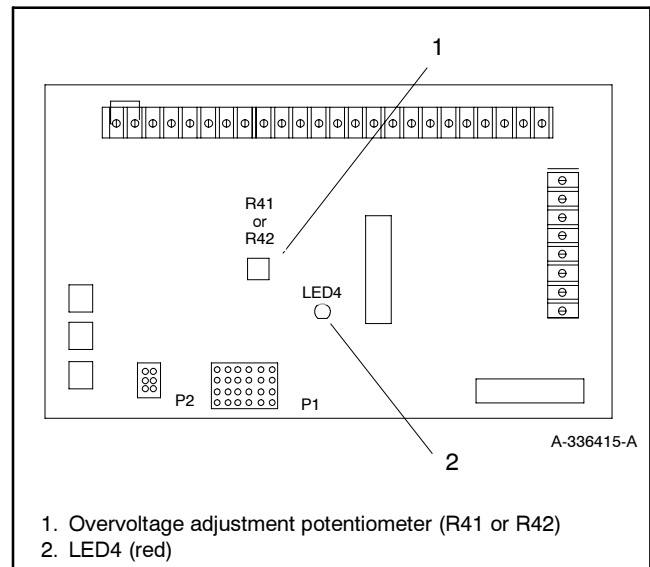

Figure 5-3 Overvoltage Shutdown Adjustment on Main Circuit Board
4. Wrap the shaft of an insulated-handle screwdriver with electrical tape. Turn the overvoltage potentiometer (R41 or R42) on the main circuit board fully clockwise. See Figure 5-3.
9. Use the wrapped screwdriver to slowly rotate the overvoltage adjustment potentiometer (R41 or R42) counterclockwise until red LED4 lights. See Figure 5-3. The generator set should shut down on overvoltage fault in approximately 2 seconds.